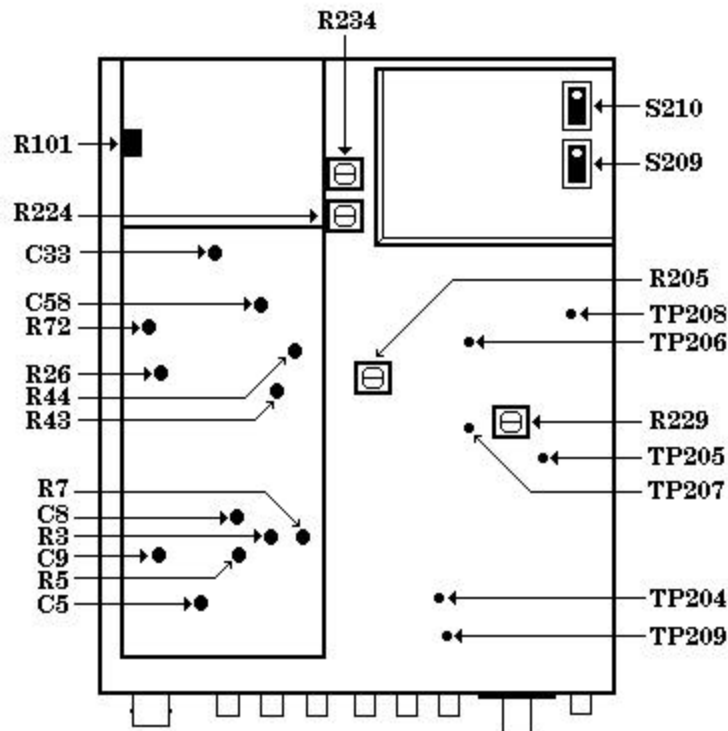

Figure 1. Test points and adjustment locations - top view.
b. Observe that slide switches S209 and S210 (fig. 1) are set for proper 120 V operation (both slide switches to left with white dot toward rear).
All test points and adjustments are shown in figure 1. Remove top cover only to make connections or adjustments and replace immediately upon completion.
- (1) Connect calibrator **OUTPUT HI** and **LO** to **TI INPUT**.
- (2) Press and release all front panel pushbuttons to out position, except **LO RANGE ENABLE** and **POWER**.
- (3) Connect a short between TP204 and TP209 (fig. 1).
- (4) Set calibrator for a 1 V, 500 Hz output. Record TI indication.
- (5) Press **RANGE HOLD/AUTO** pushbutton to **HOLD**.
- (6) Set calibrator for a .1 V, 500 Hz output. If TI does not indicate one-tenth of value recorded in (4) above, perform **b(1)** and (2) below.
- (7) Press and release **RANGE HOLD/AUTO** pushbutton to **AUTO**.
- (8) Set calibrator for a 2.5 V dc output.
- (9) Press **FUNCTION AC+DC/AC** pushbutton to **AC+DC**. If TI does not indicate between 2.388 and 2.612 V, perform **b(3)** below.
- (10) Set calibrator for a .25 V dc output. If TI does not indicate between .2388 and .2612 V, perform **b(4)** below.
- (11) Press and release **FUNCTION AC+DC/AC** pushbutton to **AC**.
- (12) Set calibrator for voltages and frequencies listed in table 3. If TI does not indicate within limits specified, perform appropriate adjustments.
- (13) Remove short connected between TP204 and TP209 (fig. 1).
¹Interaction exists between R44 and R205 (fig. 1). Repeat both adjustments as required.
²Interaction exists between C8 and C5 (fig. 1). Repeat both adjustments as required.
(1) Adjust R101 (fig. 1) until TI indicates one-tenth of value recorded in **a(4)** above (R).
(2) Press and release **RANGE HOLD/AUTO** pushbutton to **AUTO** and repeat **a(4)** through (6) above.
(3) Adjust R72 (fig. 1) until TI indicates between 2.49 and 2.51 V (R).
(4) Adjust R26 (fig 1.) until TI indicates between .249 and .251 V and repeat **a(8)** through (10) above (R).